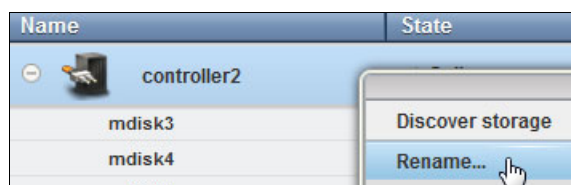

Figure 2-20 Renaming the controller
7. Rename the default controller name by clicking **Pools** → **External Storage** and right-clicking the controller, as shown in Figure 2-20.